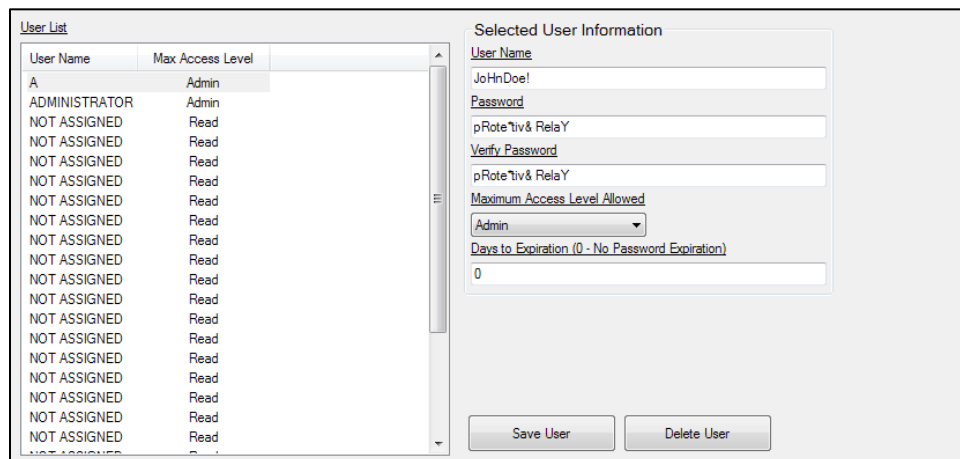

Figure 50-2. Username Setup Screen
3. Only an administrator can modify usernames and passwords on the Username Setup screen (Figure 50-2). Complex usernames and passwords up to 16 characters in length are accepted. Acceptable characters include uppercase letters, lowercase letters, numbers, and certain special characters.